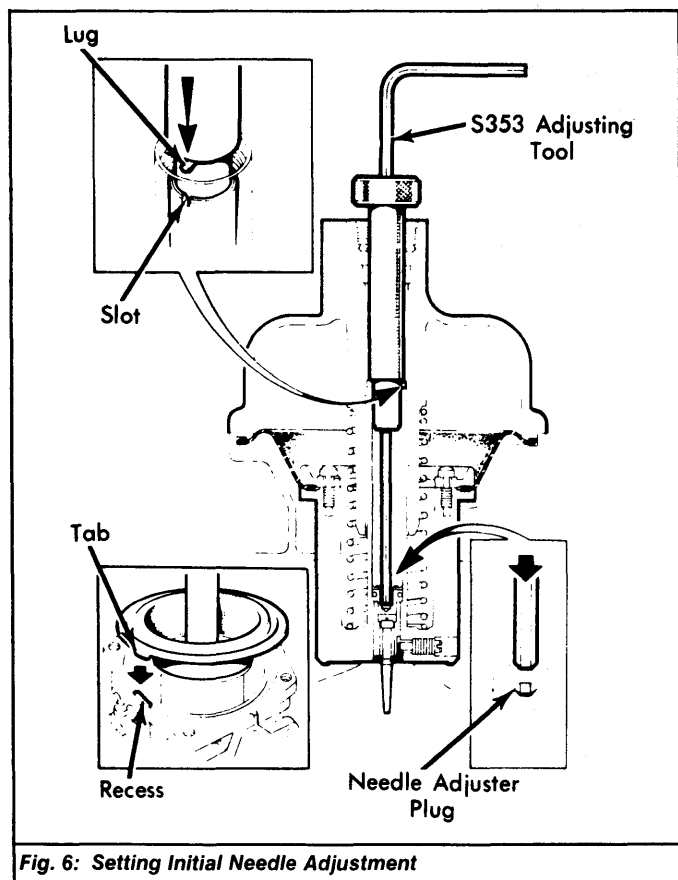

Fig. 6: Setting Initial Needle Adjustment
7) If needle requires adjustment, remove air valve damper from suction chamber. Carefully insert inner part of Adjusting Tool (S353) into hexagon hole in needle adjuster plug. See Fig. 6. Turn tool to adjust needle position.